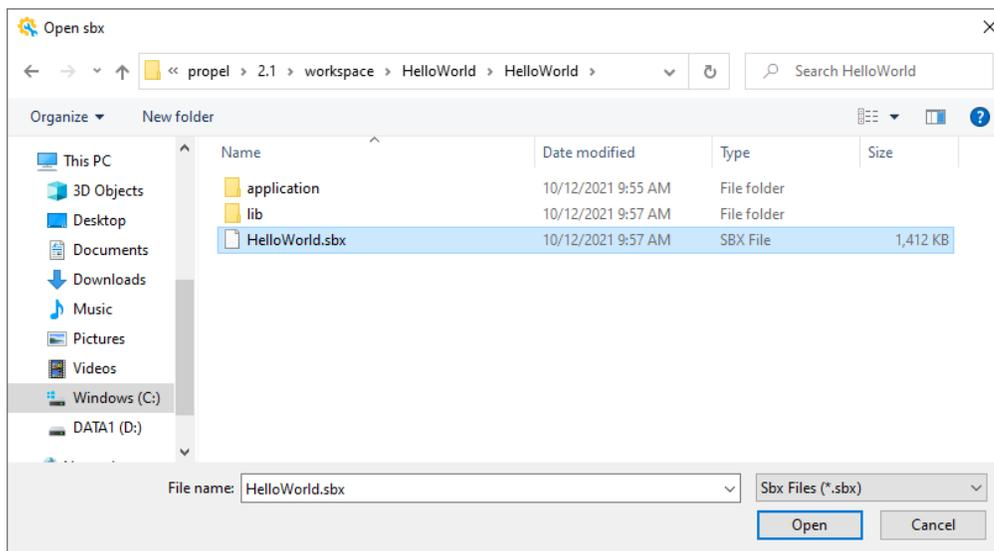

Figure 2.13. Open HelloWorld Project
- Browse to find the default project workspace folder or your own project workspace folder. Choose the sbx file, such as HelloWorld.sbx (Figure 2.13).